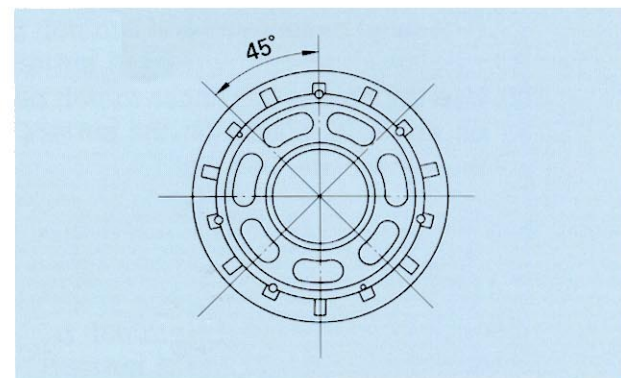

Fig. 4
- (3) Next, move your hands 45° around the bearing plate, then apply pressure and repeat the procedure in Step (2) to rub the surfaces together. Do this at a total of four places. (See Fig. 4.)